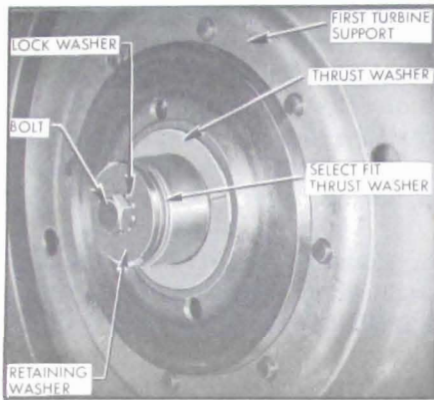

Figure 5-31—Turbine Retaining Washer and Thrust Washer
3. Remove reverse band adjustment cover and gasket, using remover tool J-2655. Shift into "Parking" and pry up on reverse band operating lever with screwdriver to lock input shaft while removing the bolt, lockwasher, retaining washer and thrust washer from front end of input shaft. See Figure 5-31. Remove bronze thrust washer from first turbine support hub.